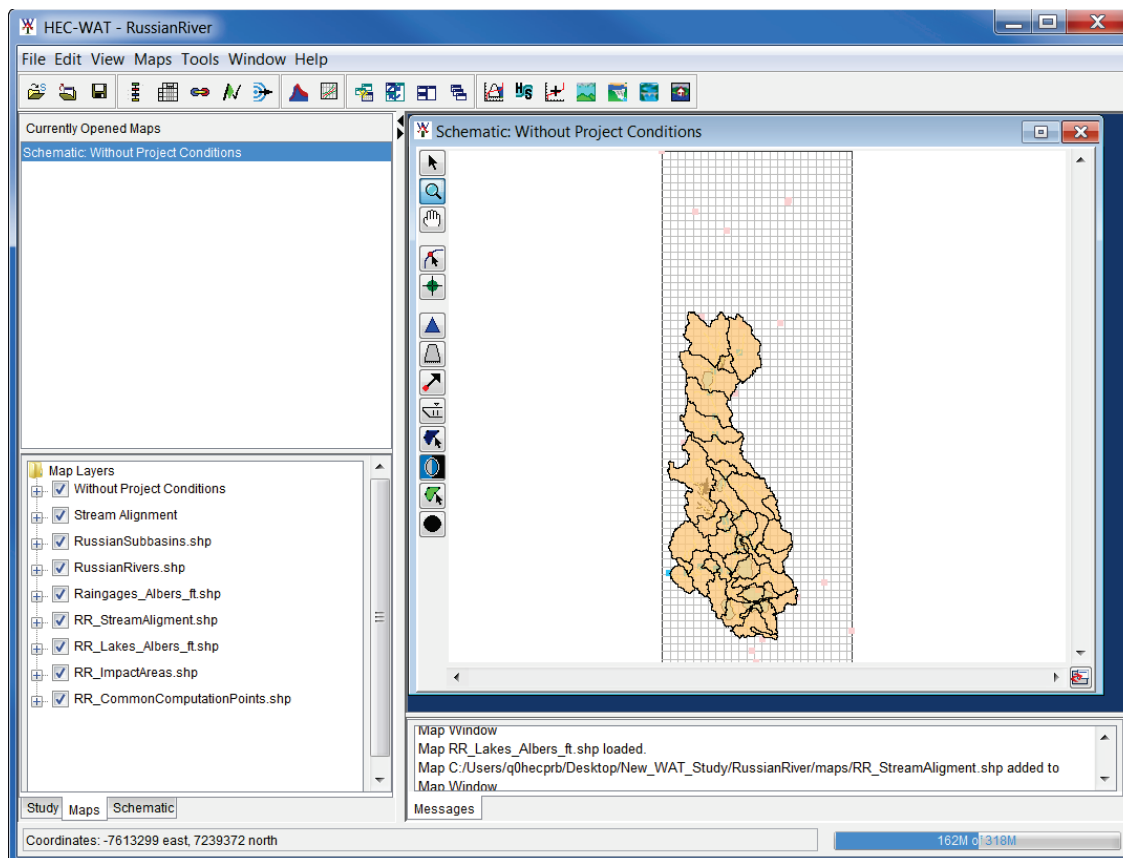

Figure 7.8 HEC-WAT Main Window – New Study Created
- Click **OK**, the **Create New Study** dialog box will close (Figure 7.7). The HEC-WAT main window will now have the name of the study on the title bar (Figure 7.8). A **Schematic Map Window** opens, which contains the map layers that were added to the study.
HEC-WAT by default will create a default alternative *Without Project Conditions* (see Section 6.1, Step 8). From the HEC-WAT main window (Figure 7.8), the **Schematic Map Window**, will contain the initial schematic for the *Without Project Conditions*. The next step is to build the schematic for the default alternative.
Once map layers are in an HEC-WAT study, the user can make adjustments to those map layers. From the HEC-WAT main window, click the **Maps** tab (Figure 7.8). Now the user can see which **Map Window** is currently active and what layers make up that **Map Window**. To change the color and the fill aspects of a shapefile do the following: